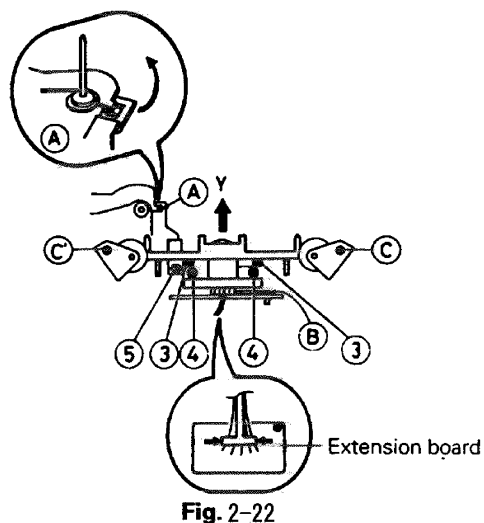

Fig. 2-22
### ■ Removal of pinch roller (See Fig. 2-22)
### ■ Remove of head assembly (See Fig. 2-22, 2-23)
3. Remove two screws ③ retaining the head assembly.
4. Remove two screws ④ for the head azimuth.
5. As shown in Fig. 2-22, remove the gear (B) shaft as pulling it along the "Y" direction and raise the head assembly with your hand.
6. Turn the erasion head arm assembly (A) along the arrow direction and remove it referring to Fig. 2-22.